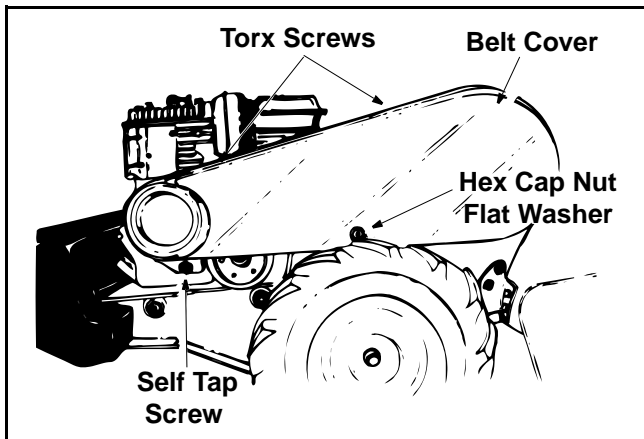

Figure 9
- Remove two torx screws from the top of belt cover. See Figure 9.